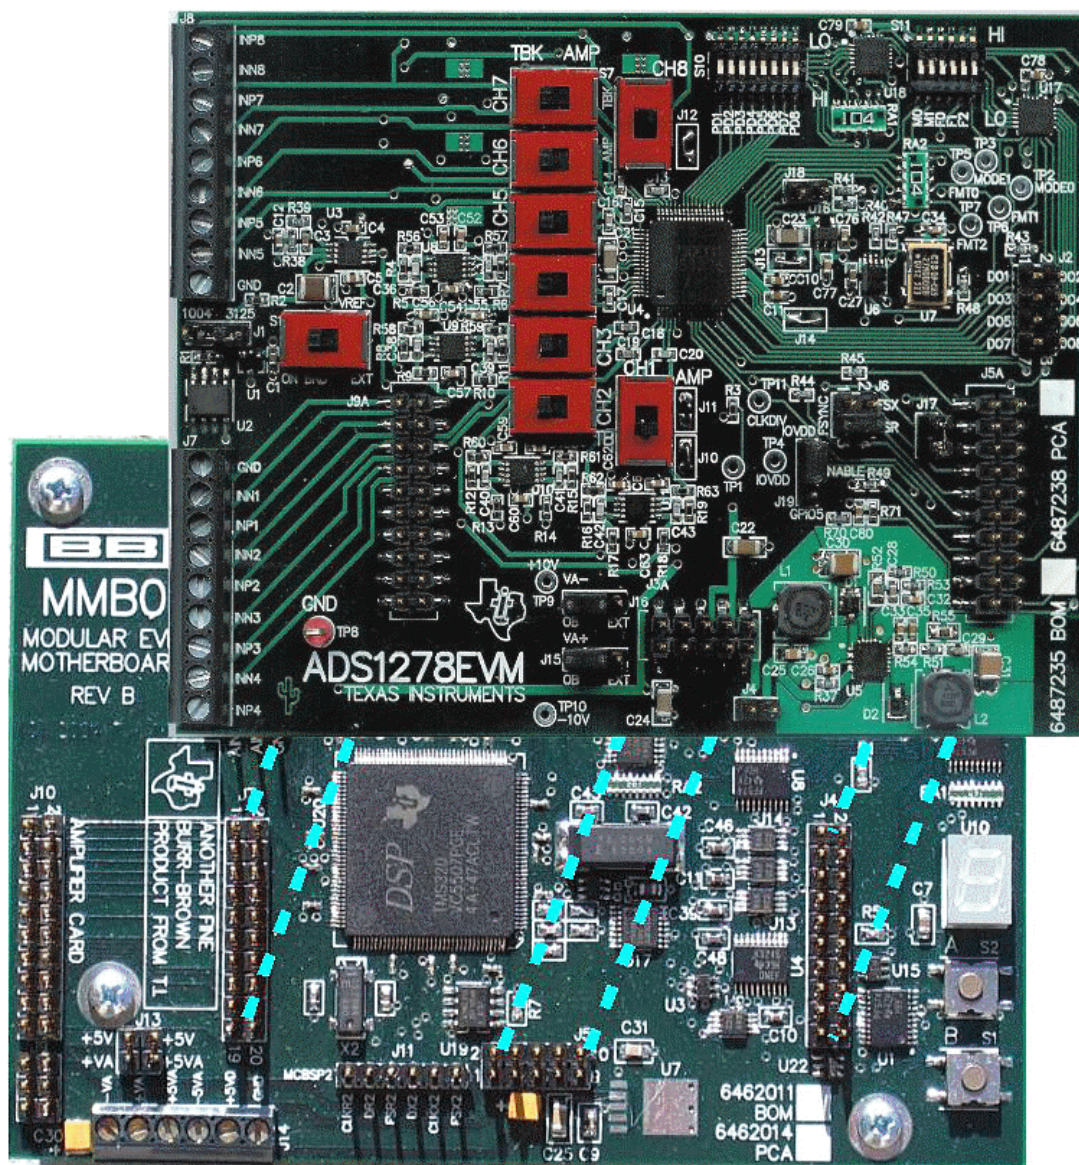

Figure 9. Connecting ADS1278EVM to MMB0
Step 3. Plug the ADS1278EVM into the MMB0, as Figure 9 illustrates.